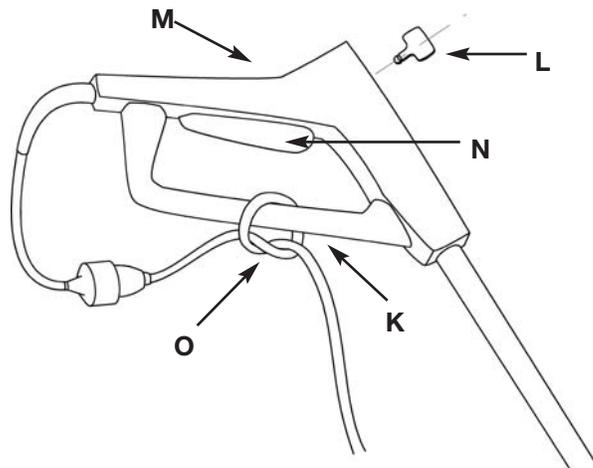

Figure 7
To prevent the snow thrower cord and extension cord from disconnecting during use, tie the extension cord into a loose knot around the lower bar (K) of the handle as shown in next step (Figure 7, Item O).
2. Plug the extension cord into a wall outlet. Insert the key (L) into the slot in front of the hand-grip (M) (Figure 7).
- 3.** Insert the key (L). Squeeze the On/Off switch (N), as shown in Figure 7. Release the switch by releasing grip pressure.